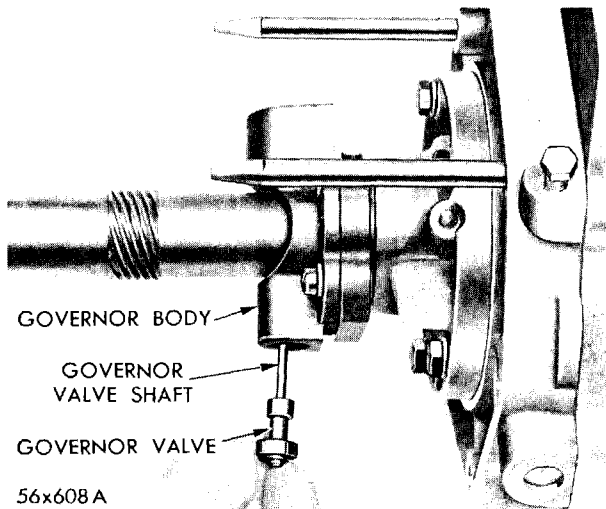

Fig. 37—Removal and Installation of Governor Valve and Shaft
(2) Remove governor valve shaft and valve, Figure 37.